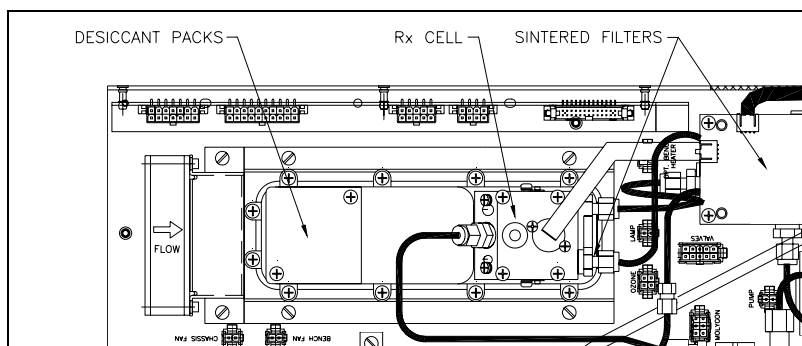

Figure 10. Desiccant packs
2. Using a Phillips head screwdriver, remove the desiccant pack access cap from the PMT housing. Refer to Figure 10. **Error! Reference source not found..**